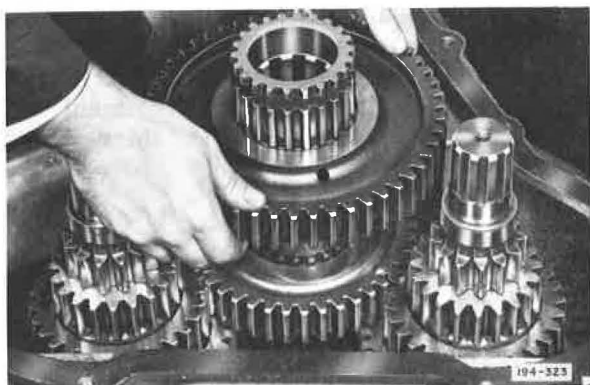

Figure 5-42. Installing Second Speed Gear
6. Install second speed gear (clutch teeth to the rear) over second/third speed sliding clutch and engage with the countershaft second speed gears. See Figure 5-42.